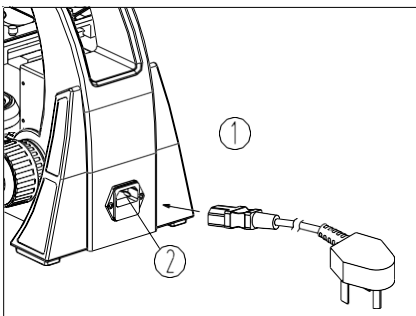

Fig.7
2. Insert end of power cord① into the power socket② of the microscope. Then insert the power cord into a wall socket. (See Fig.7).